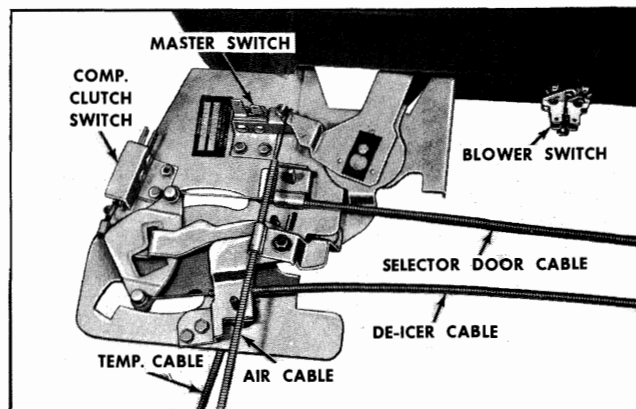

Fig. 9-5 Control Panel Assembly - Rear
3. Disconnect wire connector at blower switch (Fig. 9-5).
2. Disconnect wire connector at clutch control switch (Fig. 9-5).
2. Disconnect wire connector at master switch (Fig. 9-5).